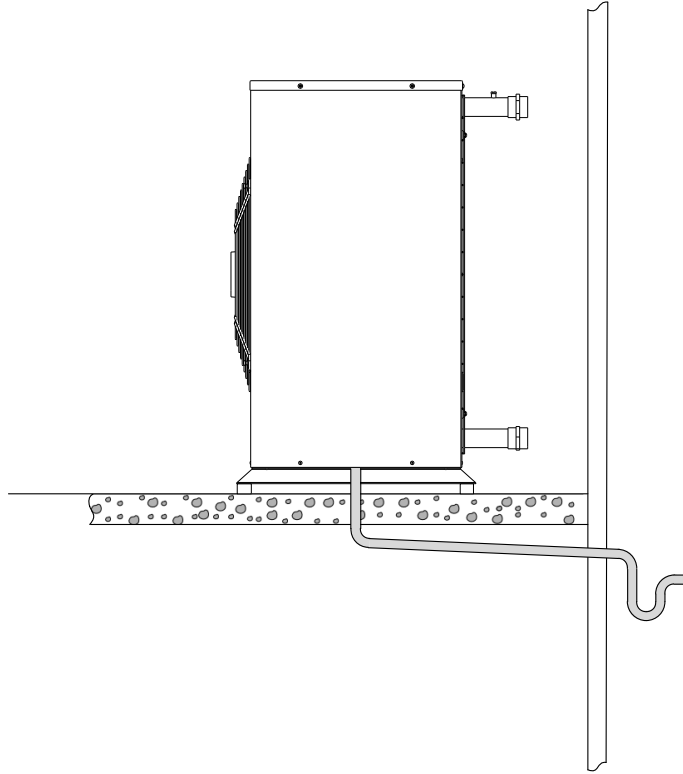

Figure 2.5. Support systems with the tray connected to the drain.
- If the unit is installed on a surface that does not drain, place a pipe to channel the defrost water from the unit outlet to the nearest drain. Figures 2.5 and 2.6 show several proposed systems to evacuate the water, depending on the support system.
- If a siphon has to be installed, place it where it is not affected by freezing temperatures, as shown in Figures 2.5 and 2.6.